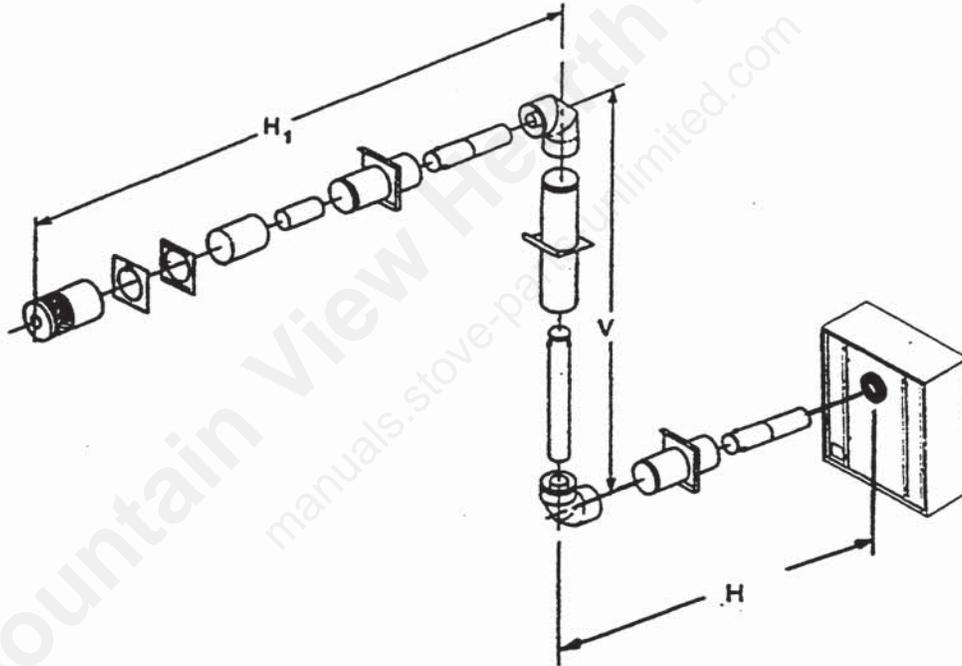

FIGURE 7
Figure 7 and Table 4 show examples of possible installations using two (2) 90 degree elbows. Dimensions V are listed as **MINIMUM** vertical dimensions, dimensions H and H + H₁ are listed as **MAXIMUM** horizontal dimensions. Two elbows will result in a horizontal termination.